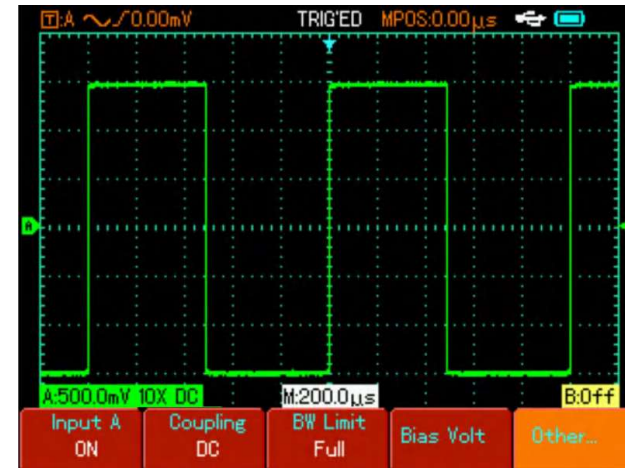

Figure 1-5 Square wave signal 10:1
③ Connect the probe tip and ground clamp to the output terminal of the function signal generator. Select a square wave of 1kHz output frequency and 3Vpp amplitude. Press [AUTO] and you will see a 1kHz/3Vpp square wave in the display in a few seconds, as shown in Figure 1-5. Repeat steps 2 and 3 to check Channel B.